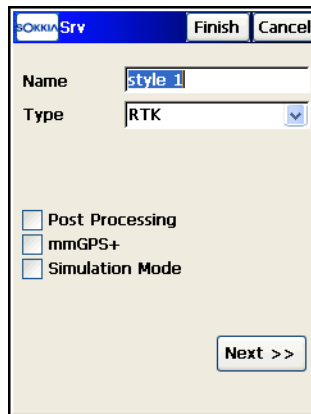

Figure 4-5. Configure an RTK Survey
2. On the *Srv* (survey) screen, choose the configuration type (either *RTK*, *Network RTK*, *Real Time DGPS*, *Network DGPS*, *PP Static*, *PP Kinematic*, or *PP DGPS*) and enter the name of the configuration (Figure 4-5).
After naming the configuration and selecting its type, tap **Next** on the **Survey** screen (Figure 4-5 on page 4-4) and continue below to finish the configuration for an RTK survey.